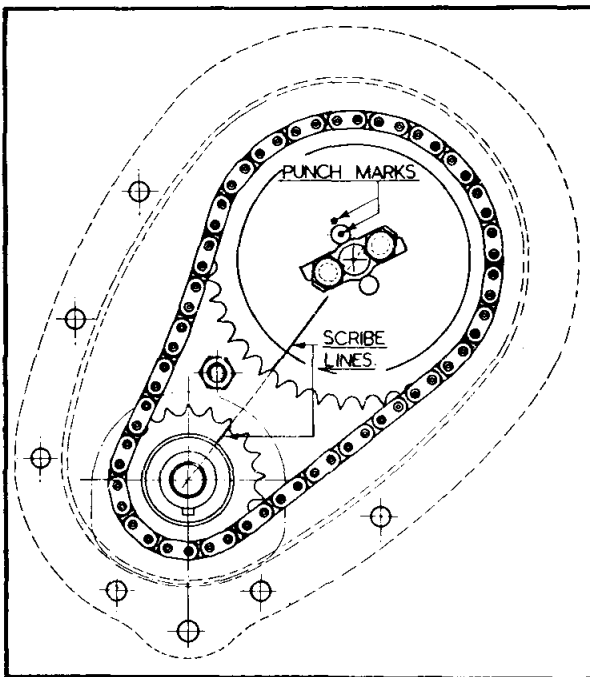

Fig. 21 Showing Wheel Markings for Valve Timing. Note the Keyway in the Crankshaft Sprocket pointing downward.
In addition, to avoid any possibility of the camshaft position being incorrect, a centre punch mark is made on the end of the camshaft through an unoccupied bolt hole and on the face of the timing gear adjacent to the setscrew hole; Fig. 21 shows the marking of the timing wheels.
- (f) Remove the timing cover by withdrawing the seven setscrews, four bolts and one nut. Note the timing markings on the gear wheels and camshaft; this will assist in the re-assembly (see Fig. 21).
- (a) When resetting the valve timing, the engine should be set with Nos. 1 and 4 pistons at T.D.C. In this position the crankshaft timing wheel keyway is pointing vertically downwards, as shown in Fig. 21.
- (i) The timing gears are now marked with a scribe line as shown in Fig. 21.